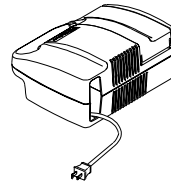

FIGURE 3 - LINE CORD LOCATION
7. Remove the line cord from the storage bin in the rear of the unit (**FIGURE 3**).